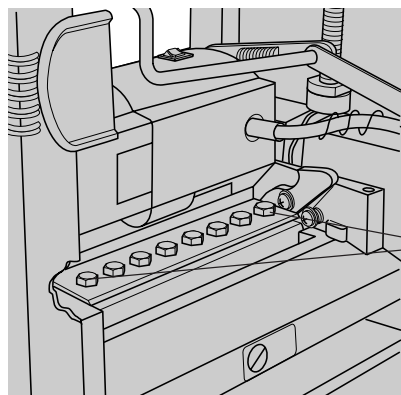

FIG. 16
- 4) If the eight bolts shown in Figure 16 are not visible, carefully rotate the cutterhead using a small piece of scrap wood. Keep your fingers away from the cutterhead until the eight bolts are visible.
- 5) When the eight bolts shown in Figure 16 are positioned as shown, ensure the cutterhead lock lever is in its locked position and the cutterhead is stable. The knives will also lock, preventing any further rotation.